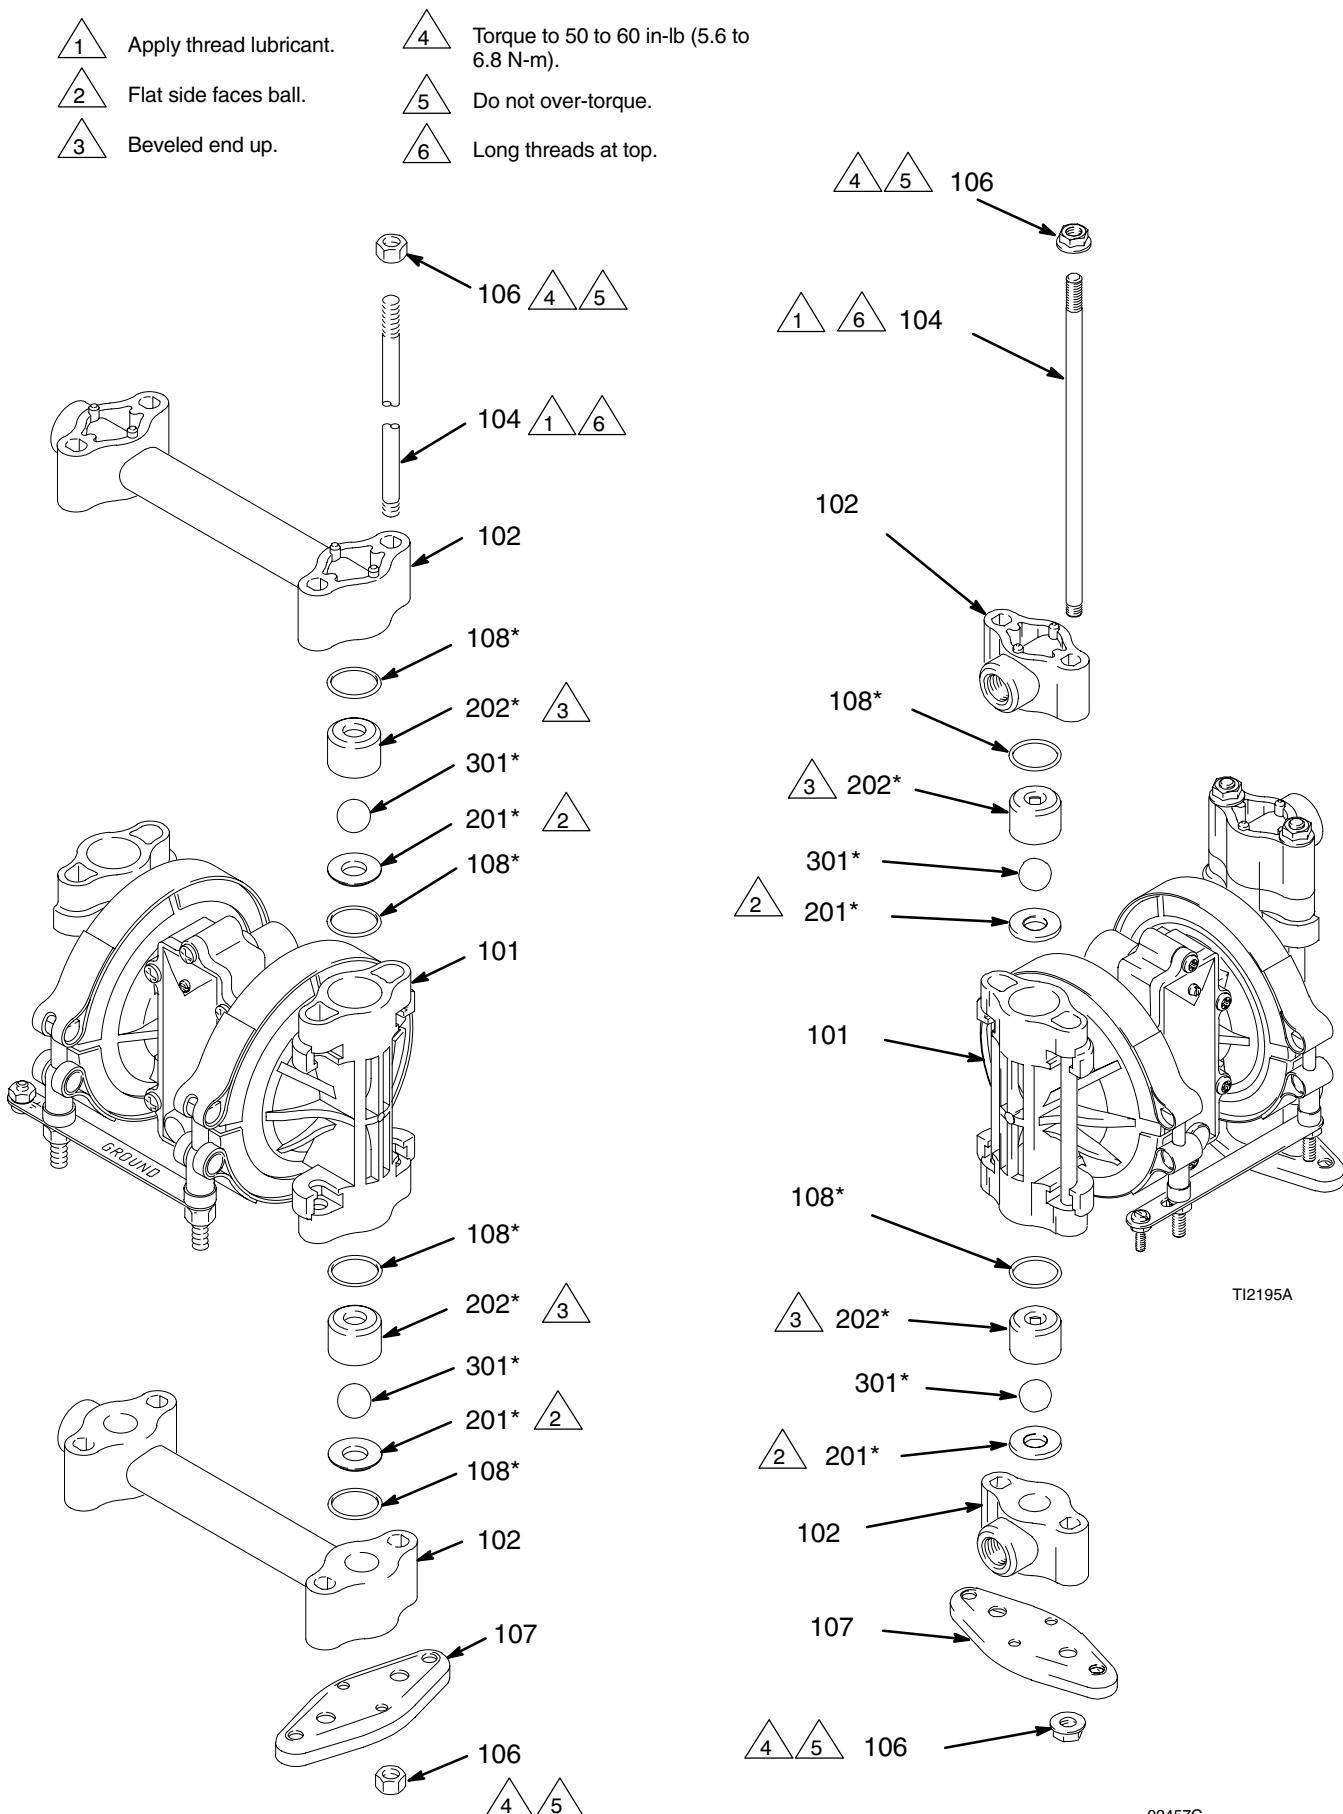

Fig. 15
2. Using a 1/2" socket wrench, remove the nuts (106) holding the top manifold (102) to the covers (101). Lift the manifold off the pump. See Fig. 15.
3. Remove the outer o-ring (108), ball guide (202), ball (301), seat (201), and inner o-ring (108) from each of the covers.
4. Turn the pump over. Pull the tie rods (104) out of the pump, leaving the four nuts (106) on the rods. Remove the feet (107) and lower manifold (102).
5. Remove the outer o-ring (108), seat (201), ball (301), ball guide (202), and inner o-ring (108) from each of the covers (101).
7. Reassemble the intake ball checks in the bottom of the pump, following all notes in Fig. 15. Be sure the ball checks are assembled **exactly** as shown.
8. Set the lower manifold (102) and feet (107) in place on the bottom of the pump.
9. Insert the long threads of each rod (104) through the feet and lower manifold. Push the rods up through the covers (101) until the nut (106) on the end of the rods bottoms on the foot. Make sure the rods are pushed all the way through. Turn the pump upright (the rods are a slight interference fit and will hold the pump parts securely in place).
10. Reassemble the outlet ball checks in the top of the pump, following all notes in Fig. 15. Be sure the ball checks are assembled **exactly** as shown. To avoid leaks, run your finger over the o-rings (108) to ensure that they are properly seated.
11. Install the top manifold (102) and four nuts (106). Torque to 50 to 60 in-lb (5.6 to 6.8 N-m). **Do not over-torque.**